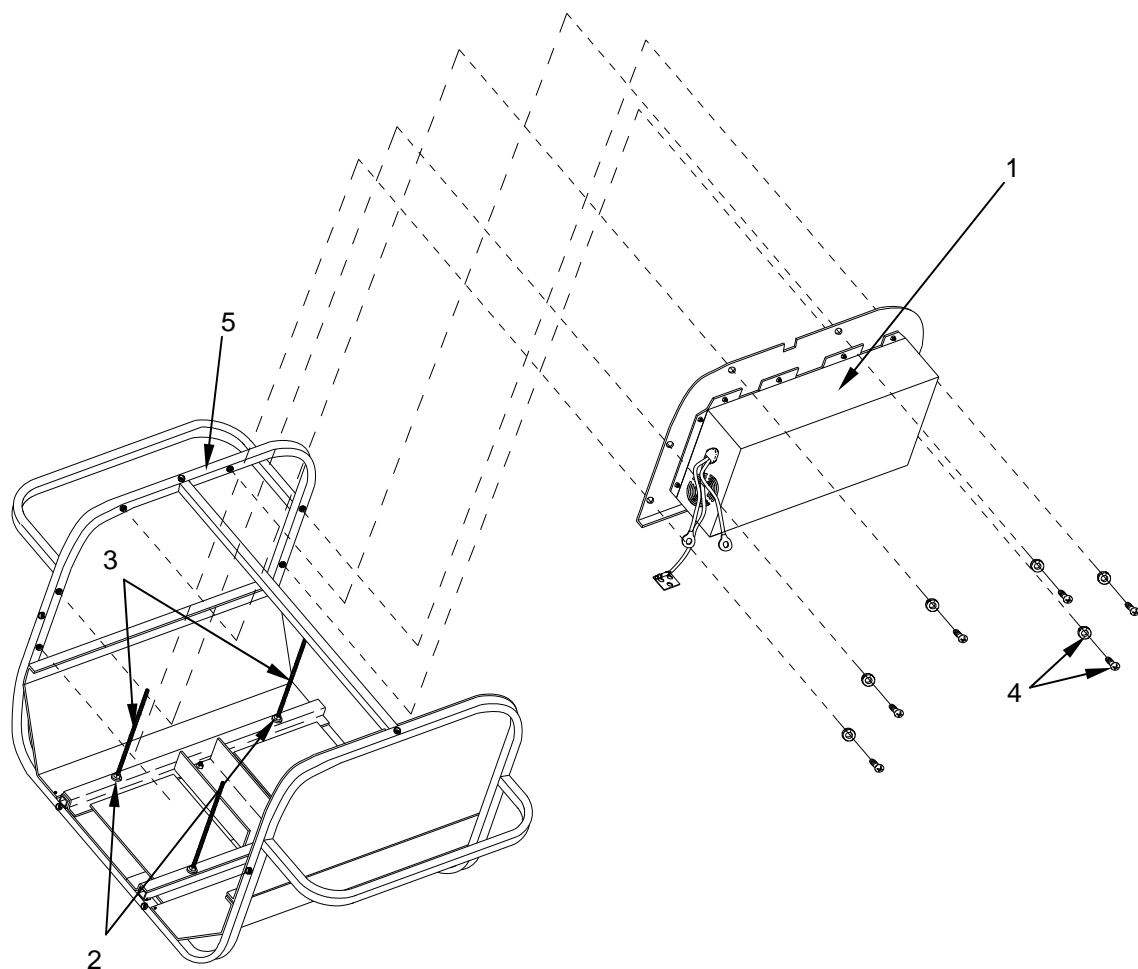

Figure 2. Replace the Battery Charger.
1. To replace the internal battery charger (Figure 2, Item 1), remove batteries IAW WP 0043.
2. Loosen the two hex nuts (Figure 2, Item 2) at the base of the threaded shafts (Figure 2, Item 3) just behind the charger assembly.
3. Remove the two shafts (Figure 2, Item 3) (it is not necessary to remove rear shafts), making sure not to drop the nuts and washers under the battery pack base plate that secure the shafts to the frame.
4. Remove the six retaining screws and washers (Figure 2, Item 4) that secure the battery charger (Figure 2, Item 1) to the battery pack frame (Figure 2, Item 5). Retain the fasteners for reassembly.
5. Remove the charger assembly (Figure 2, Item 1).
6. Install a new charger (Figure 2, Item 1) in place on the battery pack frame (Figure 2, Item 5).
7. Secure in place with the six retaining screws and washers (Figure 2, Item 4).
8. Install the two threaded shafts (Figure 2, Item 3) removed earlier and secure.